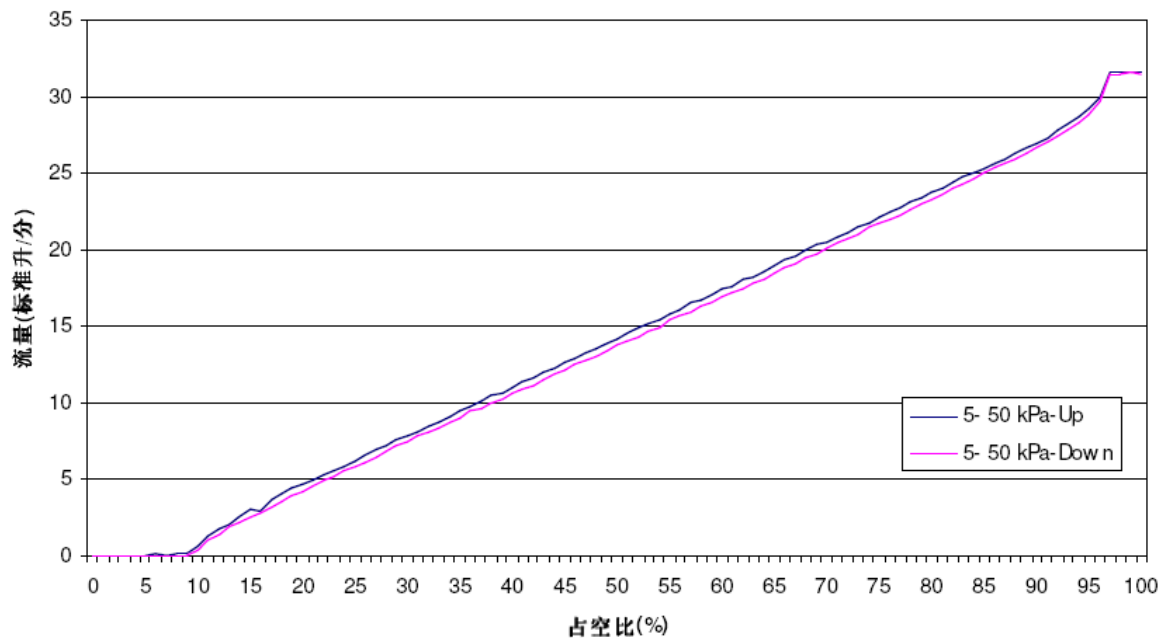

Figure 26
- Flow curve as below figure 26: